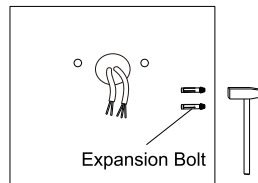

Figure 7
Step 2: Knock the expansion bolts into the wall. (Figure 7)